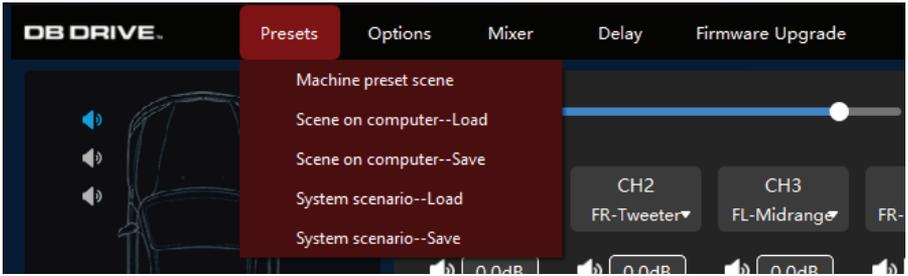

Figure 3.2.2
**Step 3:** After configuring all output signal paths, you can save the settings by clicking “Presets” (see Figure 3.2.2) and selecting “Scene on computer – Save” to store the configured output channel and speaker sound field positions.